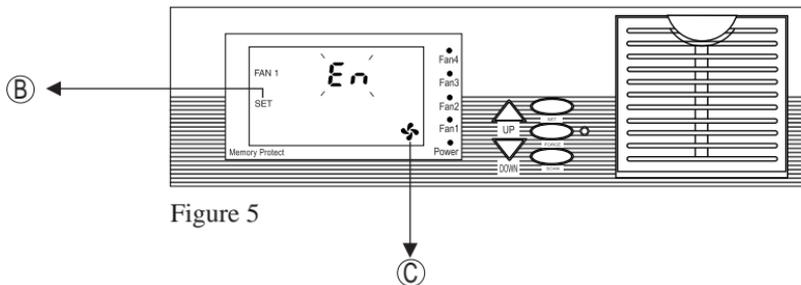

Figure 5
By pressing the SET button an appropriate number of times, you will reach the four fan channels (1 to 4). The LCD will show both SET (Figure 5-Ⓑ) meaning you can change the enable/disable setting, and the fan icon (Figure 5-Ⓒ) if power is turned on to that fan.
2) When you reach the desired fan channel, press the FORCE button. This turns the power on to that fan, and is indicated by a blinking fan icon (Figure 5-Ⓒ). Power will be supplied to this fan channel whenever the unit is turned on.